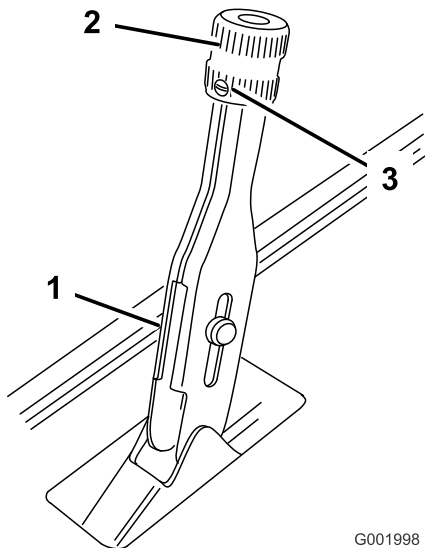

Figure 64
1. Loosen the set screw securing the knob to the parking brake lever (Figure 64).